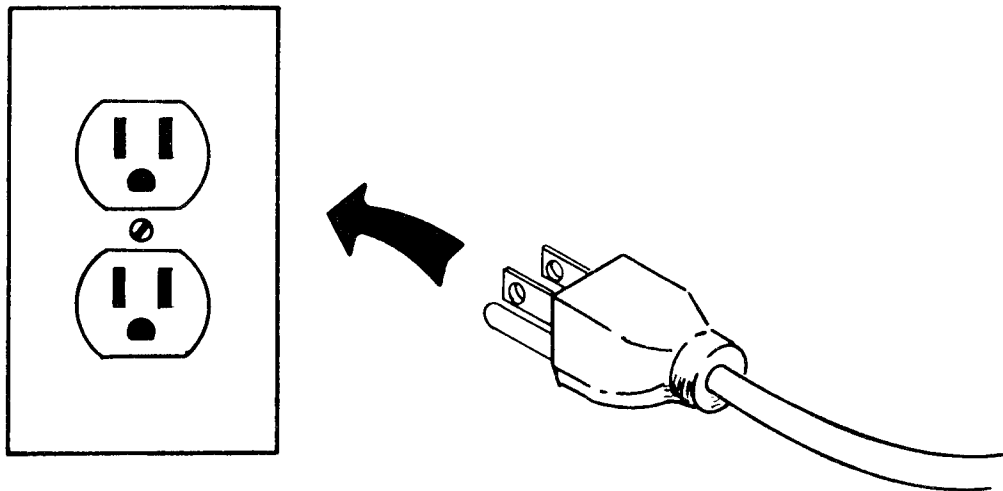

Figure 1. Plug Cord into Power Source
- a. Plug the 610B power cord into a standard power source (see Figure 1). Do not plug in the high-voltage cable.